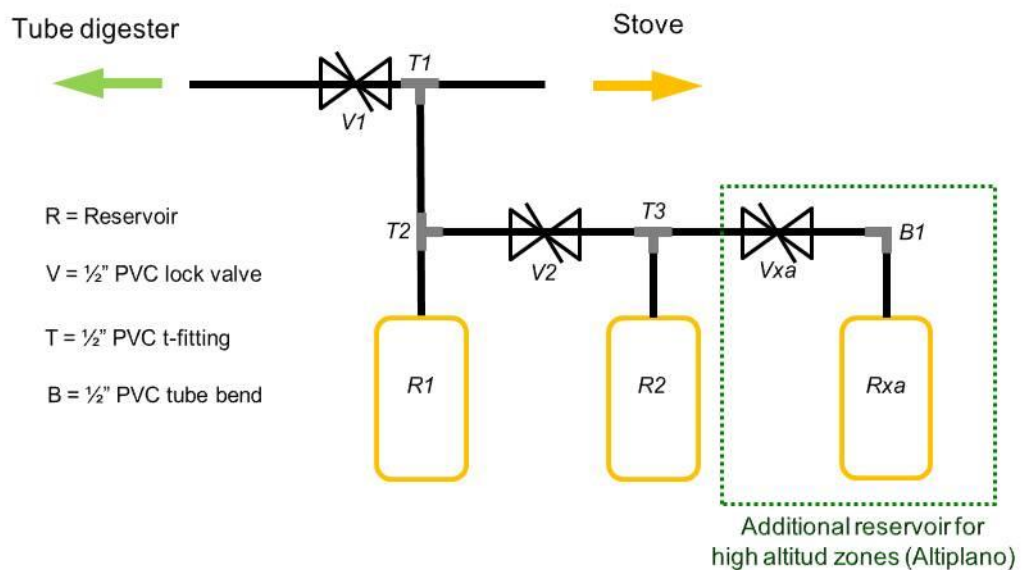

Figure 21: Scheme of the Biogas Storage Reservoirs
How the reservoirs are connected, describes Figure 21.
During the cooking, only the biogas of the reservoirs is used. So the lock valve V1 (Figure 21) is closed, because any biogas should flow back to the tube digester. In the case of just two reservoirs the reservoir R2 is used first. The cord of the reservoir is eased down, so that the biogas is pushed out towards the stove. In the moment when the reservoir R2 is empty, the reservoir R1 is used. For that the lock valve V2 is closed, because the biogas can't flow into the reservoir R2 and just towards the stove. In the case of three reservoirs, the reservoir Rxa is used first and then the reservoir R2 and so on. After a reservoir is empty and the corresponding lock valve is closed, this reservoir is hanged-up again. After cooking the lock valve V1 to Vxa is opened, so that new biogas can flow into the reservoirs.
2. Close the lock valve V1 (Figure 21) before the biogas storage reservoirs.